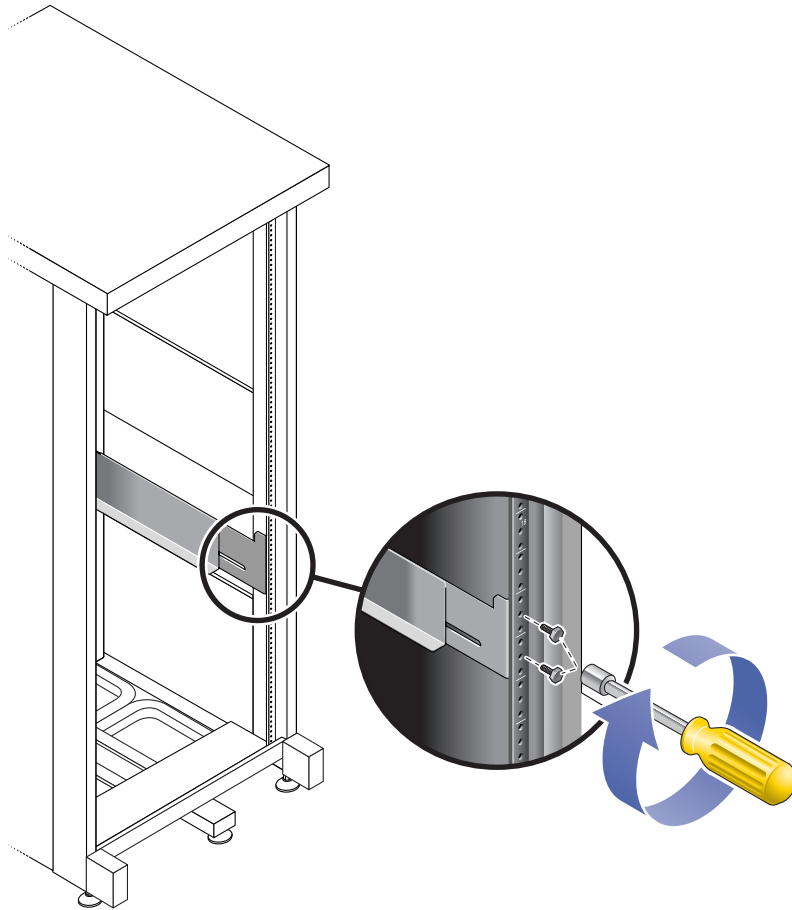

FIGURE 2-9 Securing the Left Rail to the Back of the Cabinet
- d. Use the #2 Phillips screwdriver to insert and tighten the three screws at the back of the rail (FIGURE 2-9).